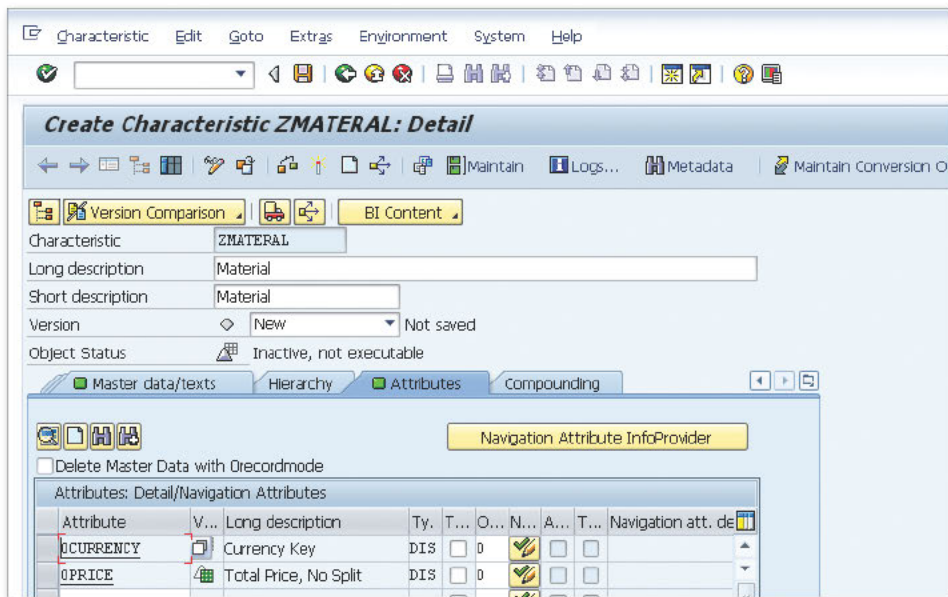

Figure 1 Creating ZMATERIAL and Adding OPRICE as an Attribute
1. Log in to SAP NetWeaver BW and use Transaction RSD1 to create a new master data object named "ZMATERIAL". Go to the ATTRIBUTES tab and add OPRICE as an attribute (see Figure 1).